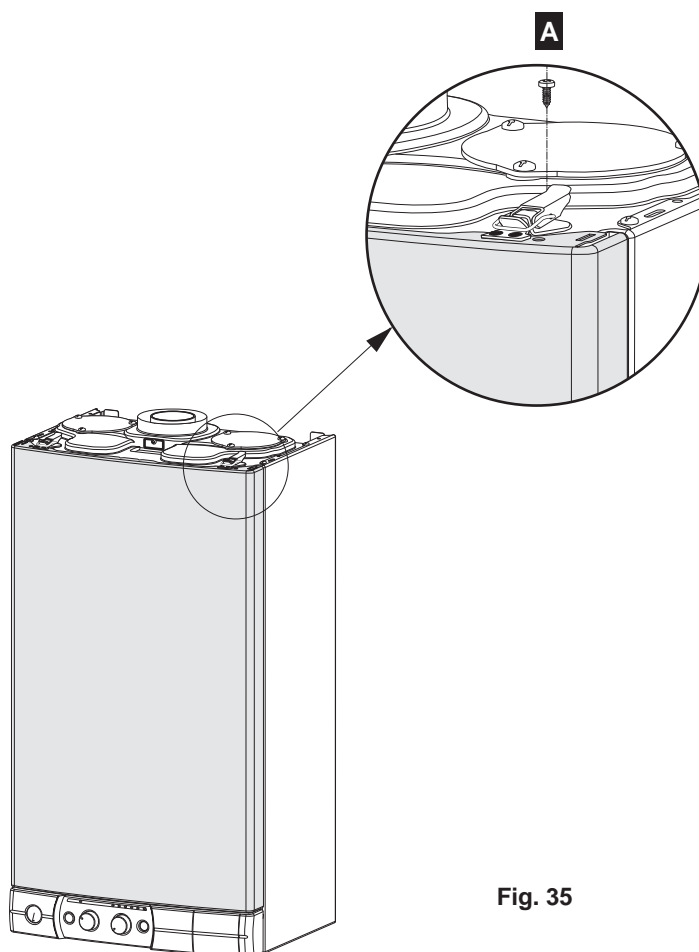

Fig. 35
- close the panel mounting clamps (Fig. 35)